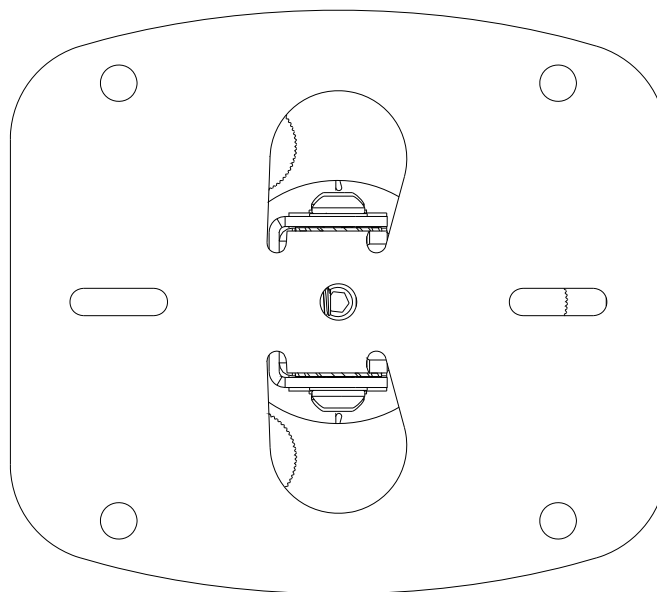

Figure 3. Stud Installation
3. Secure the plate using the center holes on the upper plate. The plate may travel ½” front to back due to the larger/longer outside mounting holes (Figure 3).